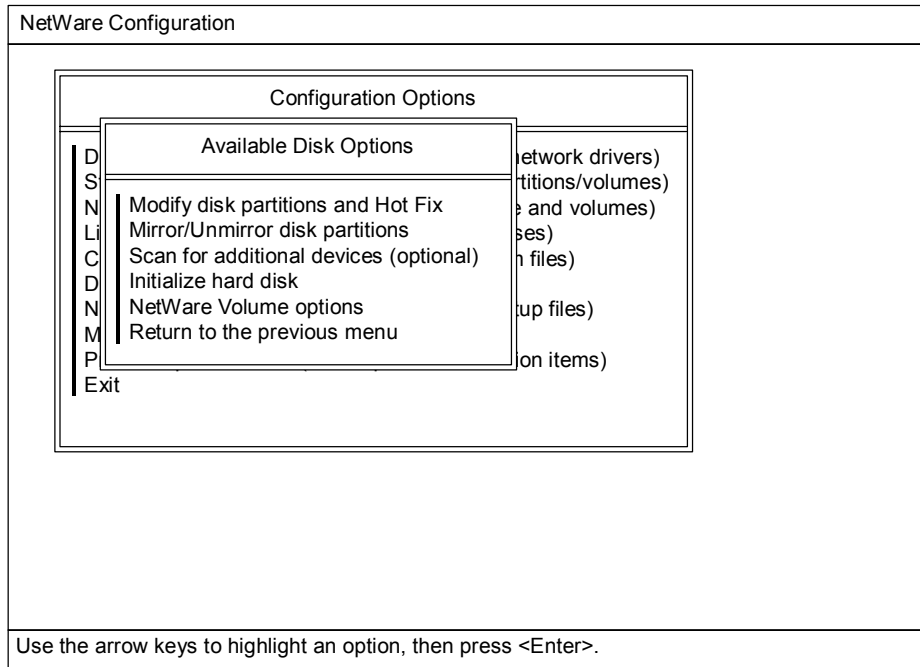

Figure 3.2 Accessing the NetWare® Disk Options
After verifying new device recognition, the next step in configuring the new 9500V devices is to create disk partitions on these new devices. Figures 3.2 through 3.8 show the sequence of screens displayed on the NetWare® server during the disk partitioning process.
2. On the Configuration Options screen, select **Standard disk options**, and press **Enter** to access the NetWare® disk options (see Figure 3.2).
12. When you are finished creating disk partitions, return to the Available Disk Options screen (refer to Figure 3.2).